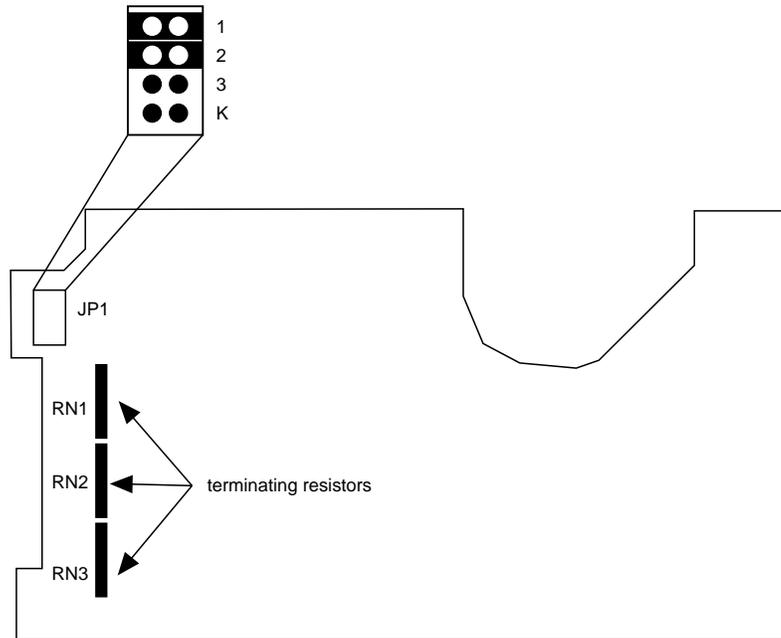

Figure 4-4. Jumper Settings for SCSI Cartridge Tape Drive
1. See Figure 4-4 and verify the jumpers and that the terminating resistors are installed for the SCSI cartridge tape drive.